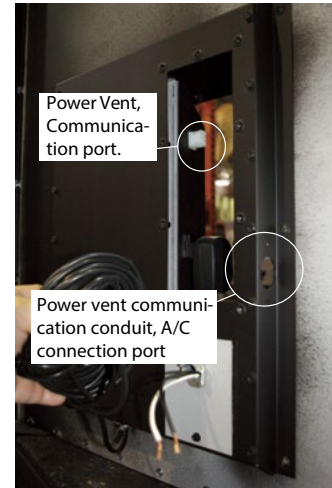

Figure 12b. Locate Power vent connections.
Step 2. Locate all the Power vent connections & ports, **Figure 12b**.